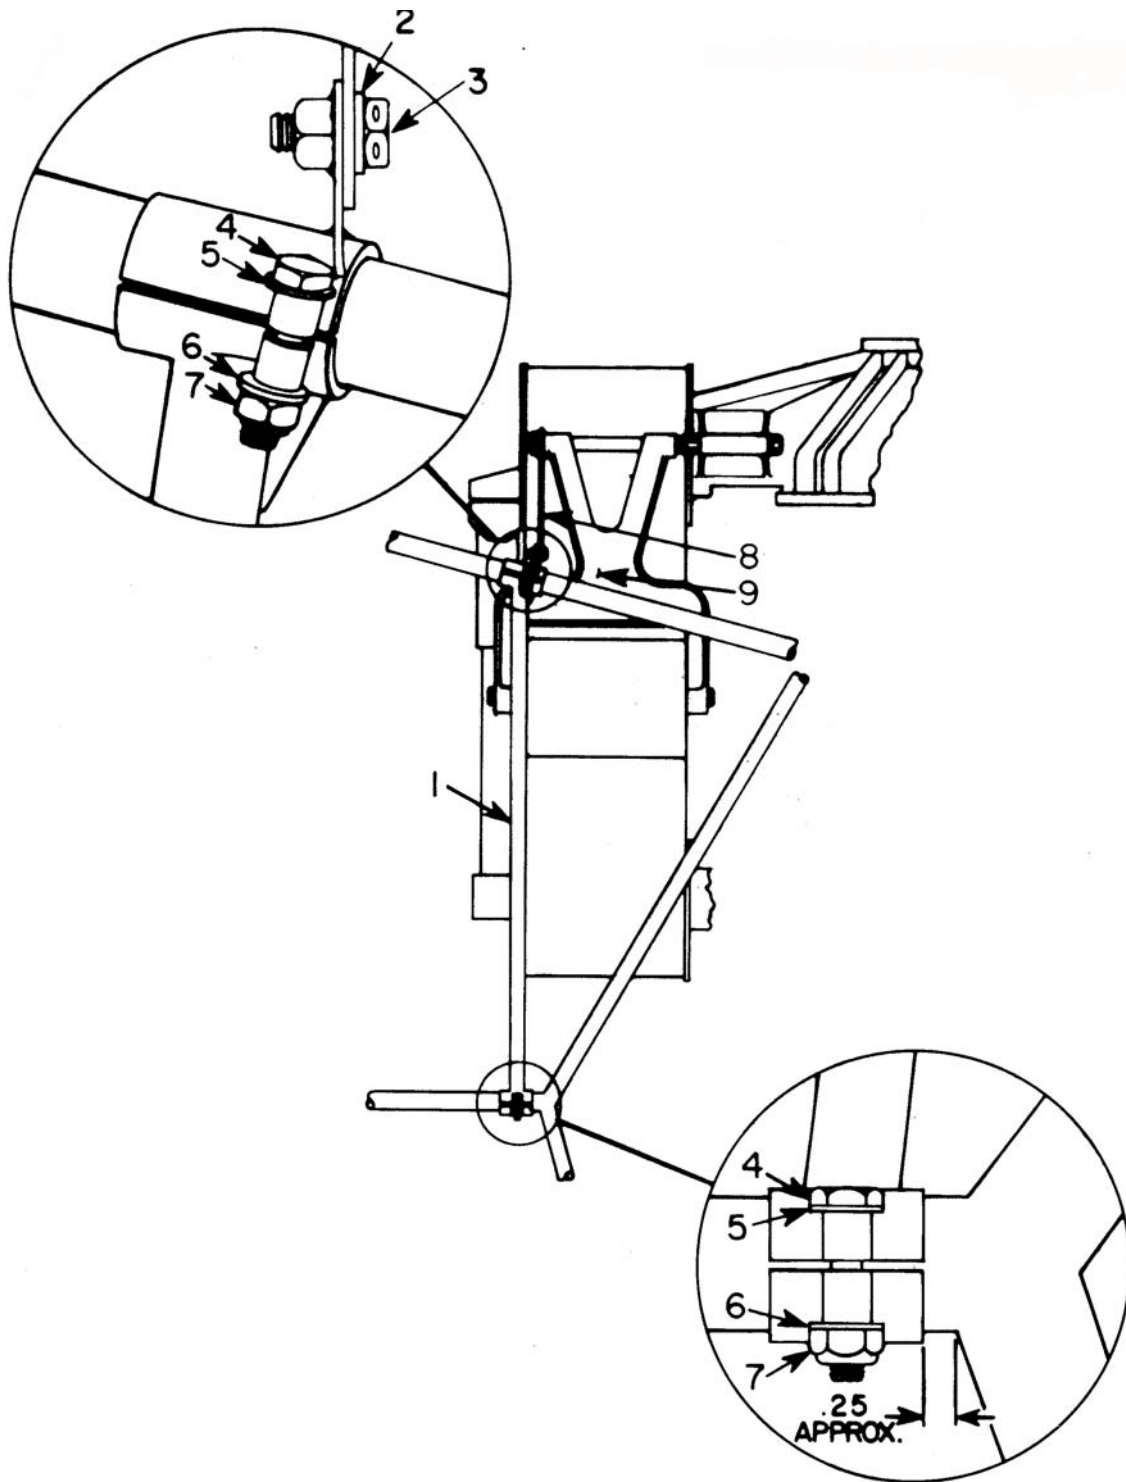
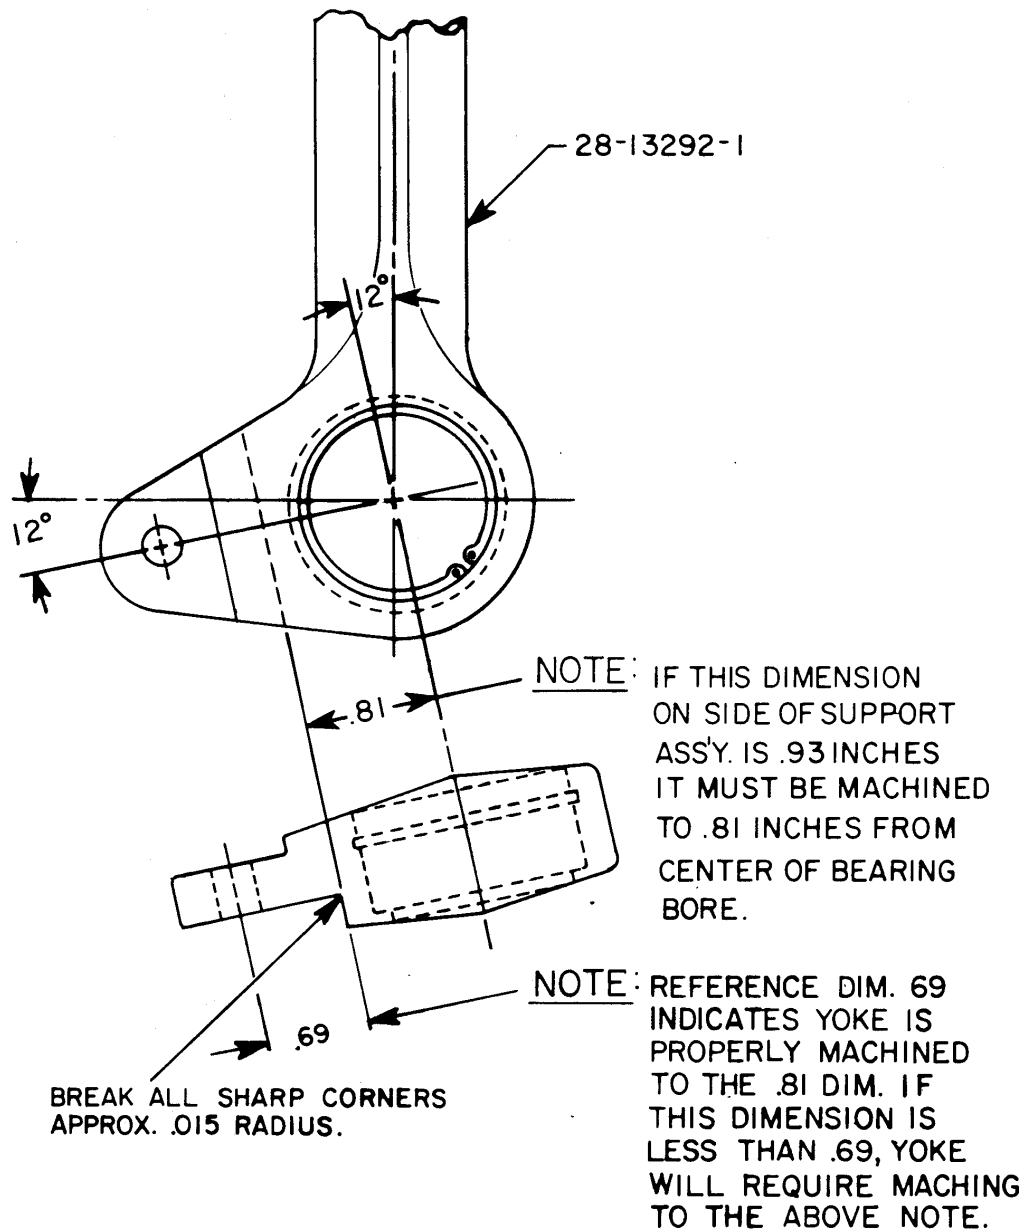

FIGURE 2
FIGURE 3
- (c) A stabilizer strut which provides rigidity between the existing idler stabilizer (ref. Service Information Letter No. 0064) and the lower pylon tube, which improves drive belt pulley tracking and belt track maintenance. (Ref. Figure 2)
NOTE: Some early model F-28A's may have an idler support assembly, P/N 28-13292-1 (Item 9, Figure 2) installed that may require an additional modification to accept the new actuator arms (1). See Figure 3 for dimensional check prior to assembly. If dimension is found to be .93 inch it should be machined locally to .81 inch for proper actuator arm (1) clearance. (Reference Maintenance Manual Section 8, page 4 for idler assembly removal procedure.)
3. Disconnect idler actuator arms (1) from the idler support assembly 28-13292.
4. Loosen actuator arm hardware at attachment to 28-13299 yoke (6) and remove the 28-13245 roller assembly (2).
5. Disconnect idler pulley assembly actuating shaft (19) (P/N 28—13217) from clutch engagement assembly bellcrank (28) 28-13260-3, and remove.
6. Remove idler stabilizer strut (1) (Fig. 2) (P/N 28-13313), if installed, between pylon and idler support arm at bottom end.
9. Attach yoke end (6) to inside or forward actuator arm (1) with hardware (7), (8), (9) and (10). Torque and safety (7) and (8) in pairs.
10. Install roller assembly (2) on the inside of belt with grease fitting facing aft, by using hardware (3), (4) and (5). Leave loose.
11. Attach aft actuator arm (1) to aft side of roller assembly (2) with hardware (3), (4) and (5). Leave loose. Then install hardware, attaching aft actuator arm (1) to the yoke assembly (6) with hardware (7), (8), (9) and (10). Torque end, safety (7) and (8) in pairs.
12. Install P/N 28-13316-1 stabilizer strut (1) as detailed in this Service Directive Bulletin on Figure 2, and re-attach idler stabilizer arm, 28-13313-1 (8).
NOTE: Idler stabilizer 28-13313-1 (Item 8, Figure 2) should be loosened prior to tracking idler pulley, and retorqued after idler track has been established. Aircraft must be running with belt engaged when idler strut is secured.
## A. Installation (Ref. Figure 2)
PARTS LIST - FIGURE 2